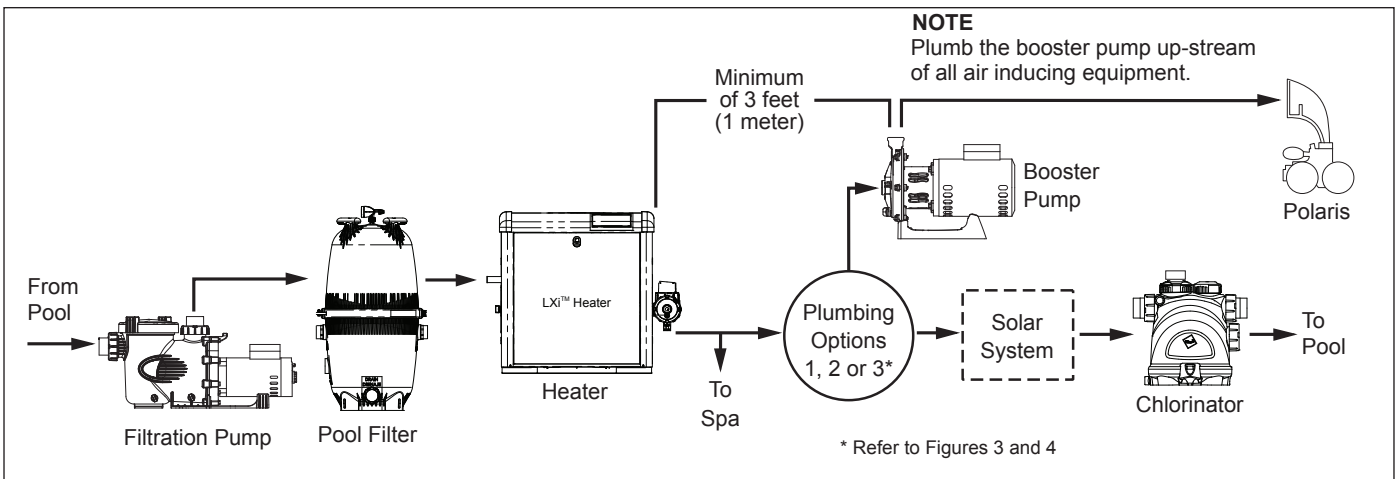

Figure 2. Typical Equipment Layout
To ensure proper function of the pump and the cleaner, refer to Figure 2 and adhere to the following guidelines for specific equipment.
2. If a heater is installed on the system, tap the inlet for the booster pump into the return line downstream and at least three (3) feet (1 meter) from the heater discharge. See Figure 2. **Do not tap the booster pump inlet into the three-foot (1 meter) section of heat sink pipe that comes directly out of the heater.**